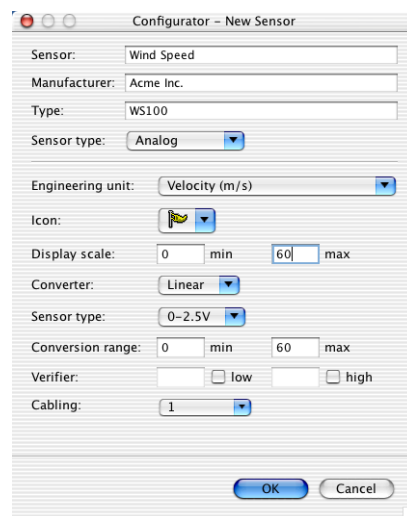

Figure 18. Adding an analog custom sensor
1. In the **Custom sensors** section of the Configurator window, click **New** to display the window shown in Figure 18.